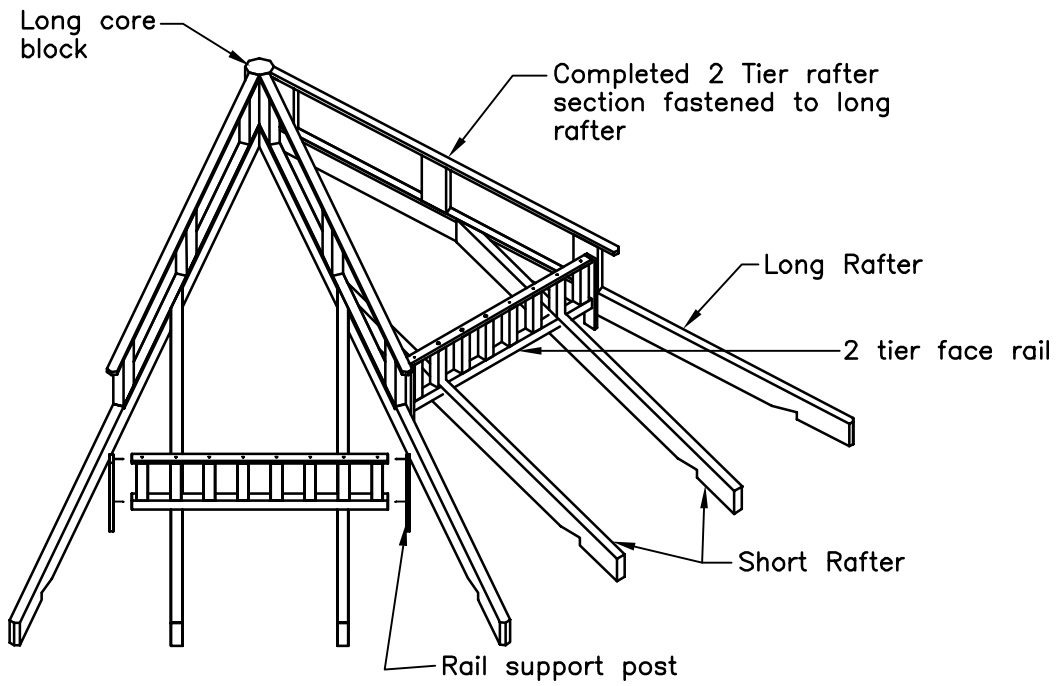

FIGURE S20
- Using your stepladder attach the Two Tier Rafter section on the Long Rafter by screwing right through the Bottom Rafter onto the Long Rafter. Use three 3" screws for this step. Take the remaining 5 Two Tier Rafter sections and systematically attach each to a Long Roof Rafter and the Long Core Block. The Long core block will sit directly over the top of the Short Core Block. See Figure S20.
- The Face Rails come pre-assembled for your convenience. You must attach a left and a right Rail Support to each end of the Face Rail. The Rail Supports are angle cut and beveled. Like the posts in the sidewall assembly earlier, the flat face will be attached to the Face rail (the beveled face will be attached to the Two Tier Rafter Sections) and the Long Rafter. The angle cut of the Rail Support will be flush with the top of the Face Rail. See Figure S20 for details. Use Two 2" screws to attach each Rail Support to the Face Rail.
- Insert the Face Rails from above so that each Face Rail is Flush with the front of the Two Tier Rafter Supports. Using two 2" screws attach each Rail Support Post to the Two Tier Rafter Supports. See Figure S20 for details. Also, insert a screw through the Long Support Post into the Long Rafter.